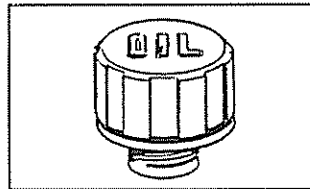

FIG. 5
- Remove cap from top of pump and insert oil fill cap included in parts bag (Fig. 5).